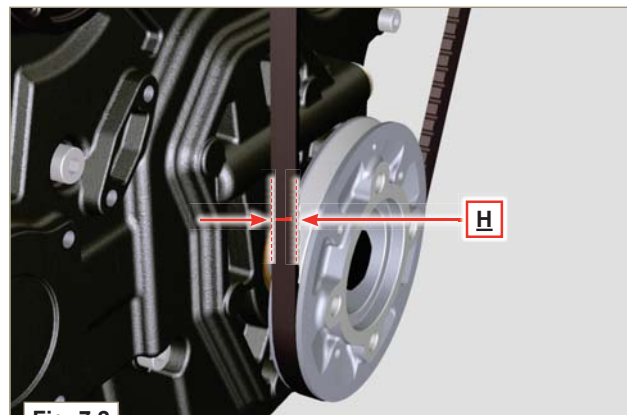

Fig. 7.2
- 6 - Check that at point **p** the tension value is between **70** and **75 Hz** for V-belt of 9 mm and **80** and **85 Hz** for V-belt of 17 mm (**Fig. 7.2**) (**H**).
By the tool **F** (DENSO BTG-2) shown in the picture (or a similar one) it is possible to check the corresponding value in Newton, (which should be) included between **200** and **230 N** for V-belt of 9 mm and **350** and **450 N** for V-belt of 17 mm (**Fig. 7.2**) (**H**).